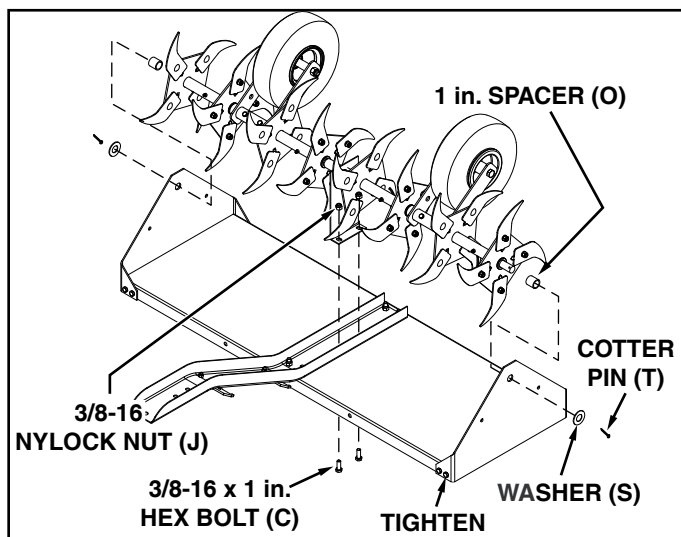

FIGURE 9
- Turn tray upside down and install two 1 in. long steel tube spacers, one on each end of shaft. See figure 9.
- Position the shaft assembly with each end of the shaft extending through the holes in the end plates and secure each end of the shaft with a large flat washer and cotter pin. See figure 9.
- Fasten the middle bracket to the tray assembly using two 3/8-16 x 1 in. hex bolts and two 3/8-16 nylock hex nuts. **Tighten** tray to end plate bolts. See figure 9.